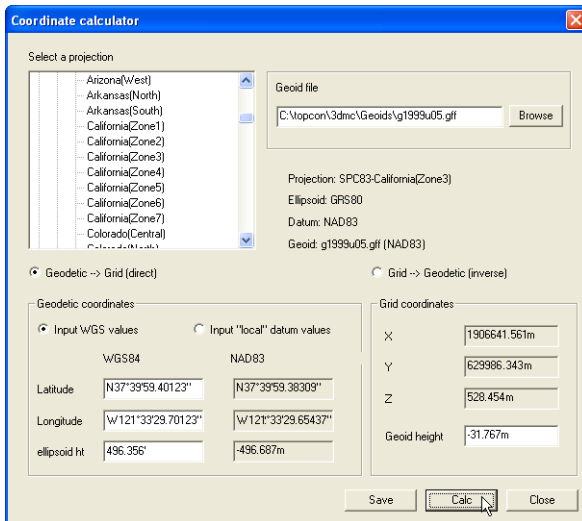

Figure 2-12. Coordinates Calculated
5. Click **Calc**. 3D-Office calculates the corresponding geodetic coordinates (WGS or local datum) and the grid coordinates based on the selected projection (Figure 2-12).